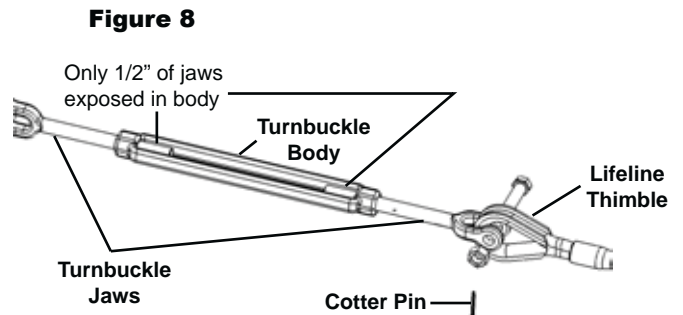

Figure 8
B. Turnbuckle to Lifeline Thimble *(see Figure 8)*